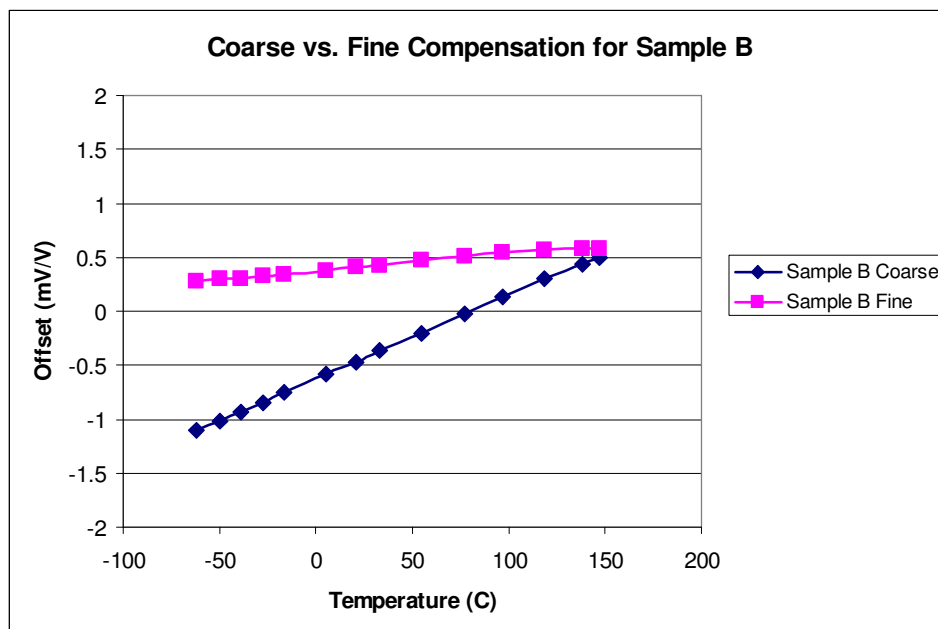

Fig. 5: Measured bridge Offset vs. Temperature for the circuit shown in Fig. 3, for a given eTC Rejutor divider, first coarse-adjusted, then fine-adjusted.
“Fine Adjustment”: The above can be considered as a single “coarse” adjustment. If better precision is desired, one can perform a second measurement of Offset and TC-Offset to calculate new Offset and TC-Offset targets, and then a second (fine) adjustment, again using only output voltage feedback. Fig. 5 shows results of a coarse adjustment (sample (B)), and subsequent measurement (-0.44mV/V, +7.7uV/VK), and a subsequent fine adjustment of the same sample (B), where the TC-Offset has been significantly improved (+0.42mV/V, +1.7uV/VK). Note that Vout vs. T has good linearity over the full temperature range from below -55C to above +145C.